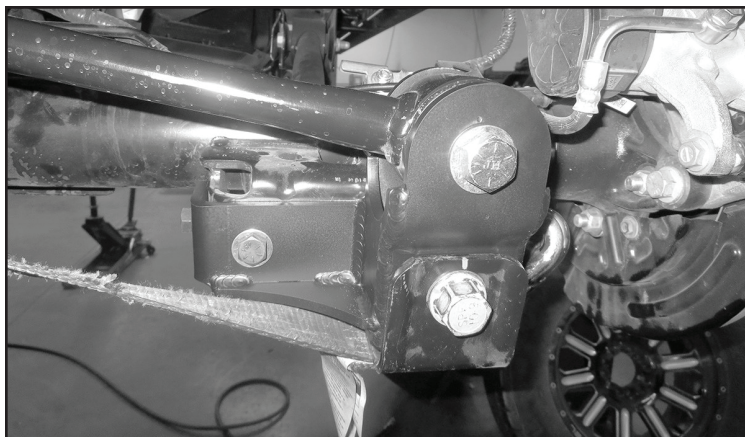

FIGURE 26 - STEP 38
38. Install the track bar to the new Fabtech bracket using the supplied 5/8" hardware. Torque to 170 ft-lbs. **SEE FIGURE 26**